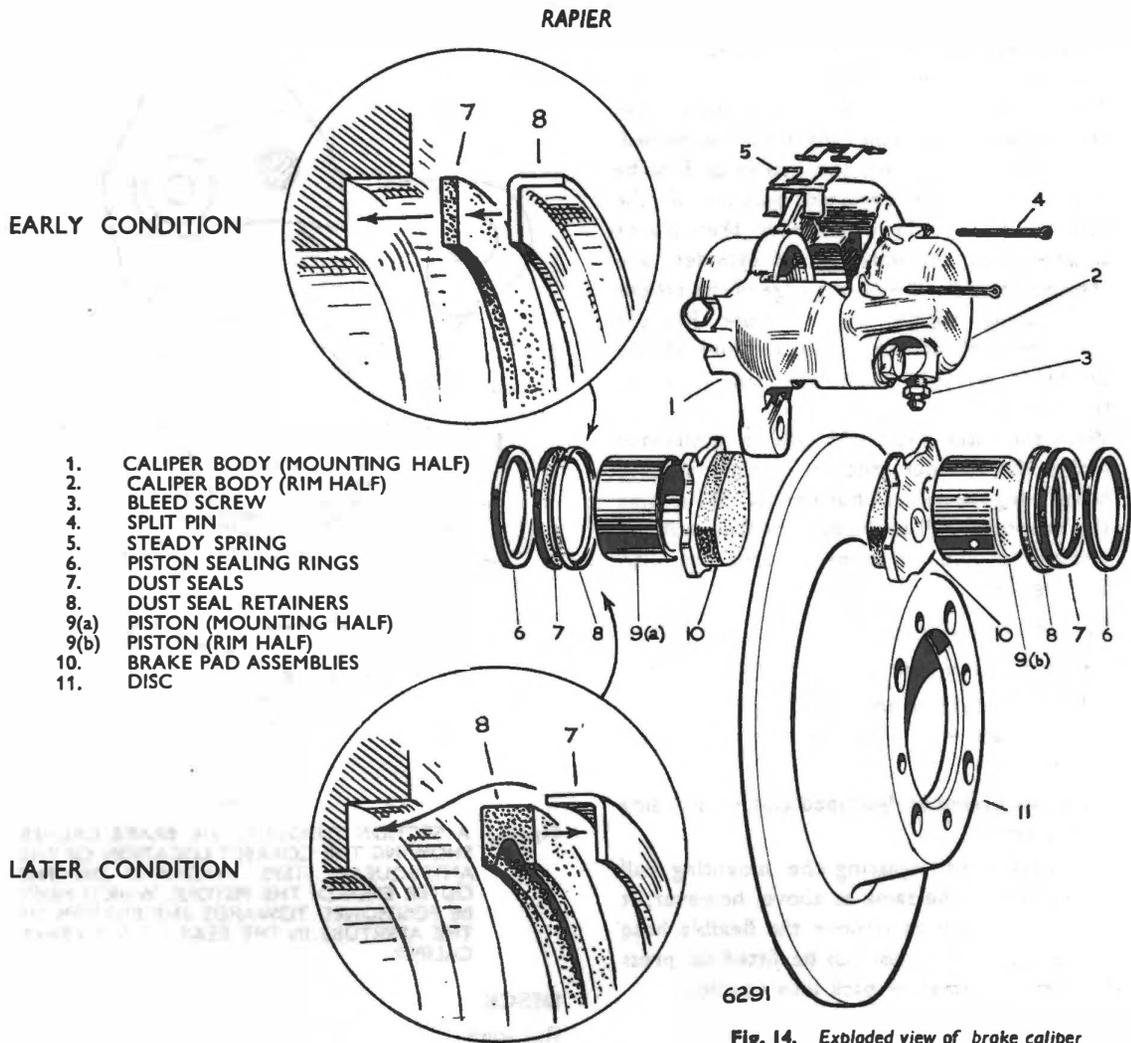

Fig. 14. Exploded view of brake caliper
To remove (See Fig. 14)
If the rubber sealing rings (item 6, Fig. 14) are worn or damaged, they should be replaced immediately. Before refitting seals, seal retainers and pistons, they should be coated with Lockheed Disc Brake Lubricant.
5. Retain the mounting half piston (item 9(a), Fig. 14) in its cylinder using special tool No. RG.331 carefully avoiding the brake hose.
6. Gently apply the footbrake until the rim half piston (item 9(b), Fig. 14) has been pushed out far enough to be removed by hand.
8. Remove the sealing ring (item 6, Fig. 14) by inserting a blunt screwdriver under the ring and prising it out. Take great care not to damage the locating grooves.
9. Should the dust seal (item 7, Fig. 14) require renewing, the dust seal retainer should first be removed by inserting the blade of a screwdriver between the retainer and seal and carefully prising out. The dust seal can then be lifted out. When renewing the dust seals, always fit new dust seal retainers.
12. Open the bleed screw (Item 3, Fig. 14).
With the later type, the seal is positioned within the retainer, and the retainer pressed home using special tool number RG 331 minus the adaptor. When fitted, the flange of this retainer should be facing towards the disc. See Fig. 14.